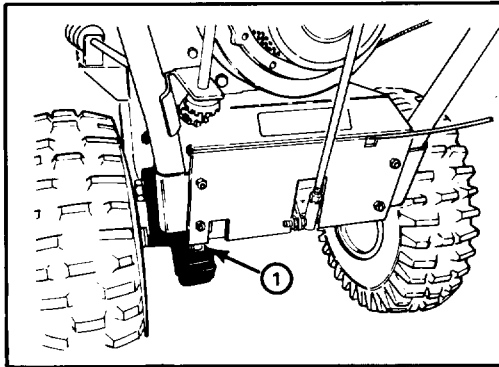

Figure 17
1. Annually, lubricate drive chain with chain lubricant (Fig. 17). Wipe up any excess oil.